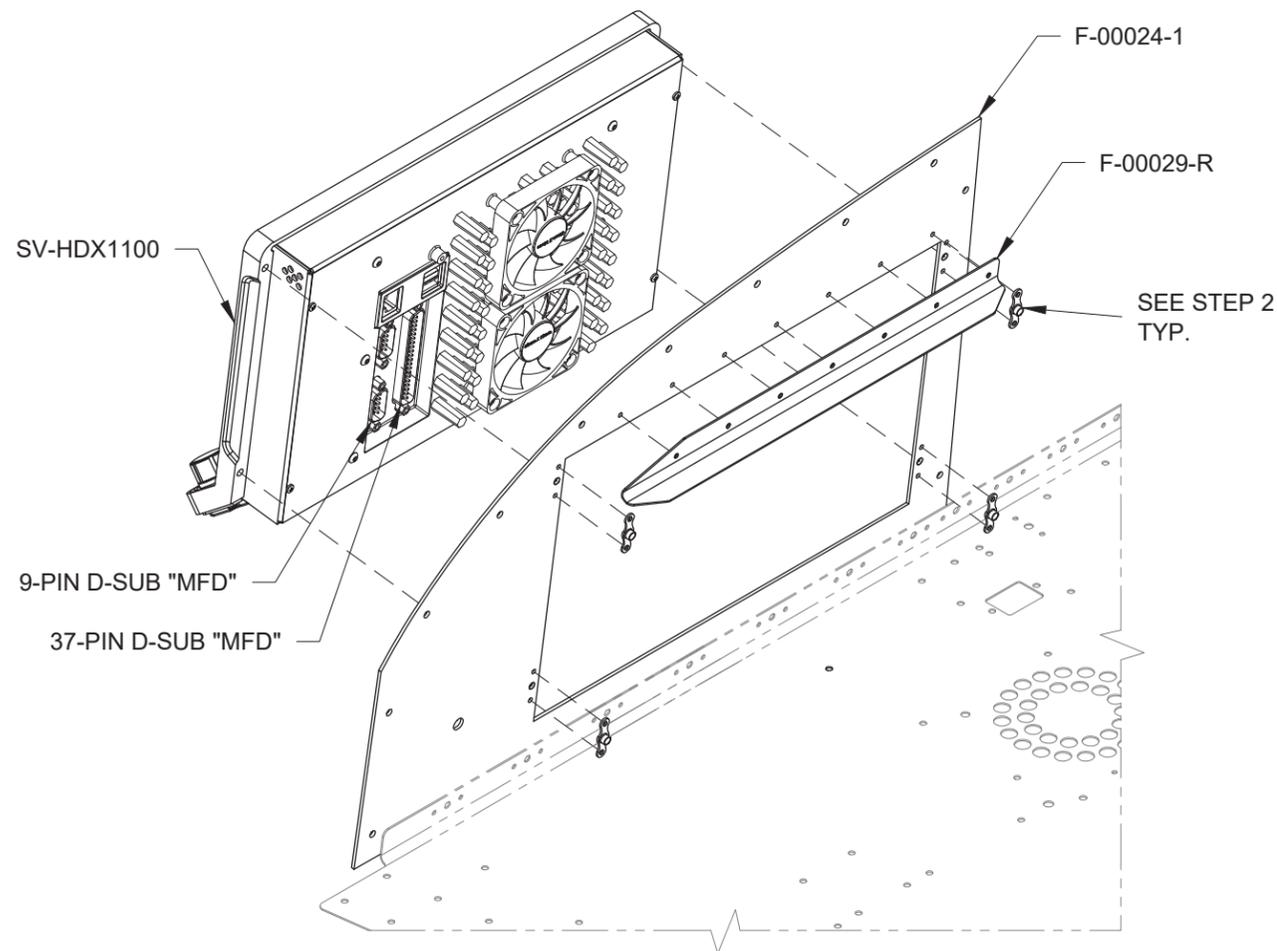

FIGURE 2: INSTALL STIFFENER AND NUTPLATES
Step 2: Refer to Section 42CiS for attaching the nutplates and reinforcing angle shown in Figure 2.
Step 4: Remove the tie-wrap installed on 42CiS/U-12. Connect the WH-00133-1 RV-12iS Dynon Common Harness 37-pin d-sub, 9-pin d-sub, and network cable all labeled "MFD" to the SV-HDX1100. See Figure 2.